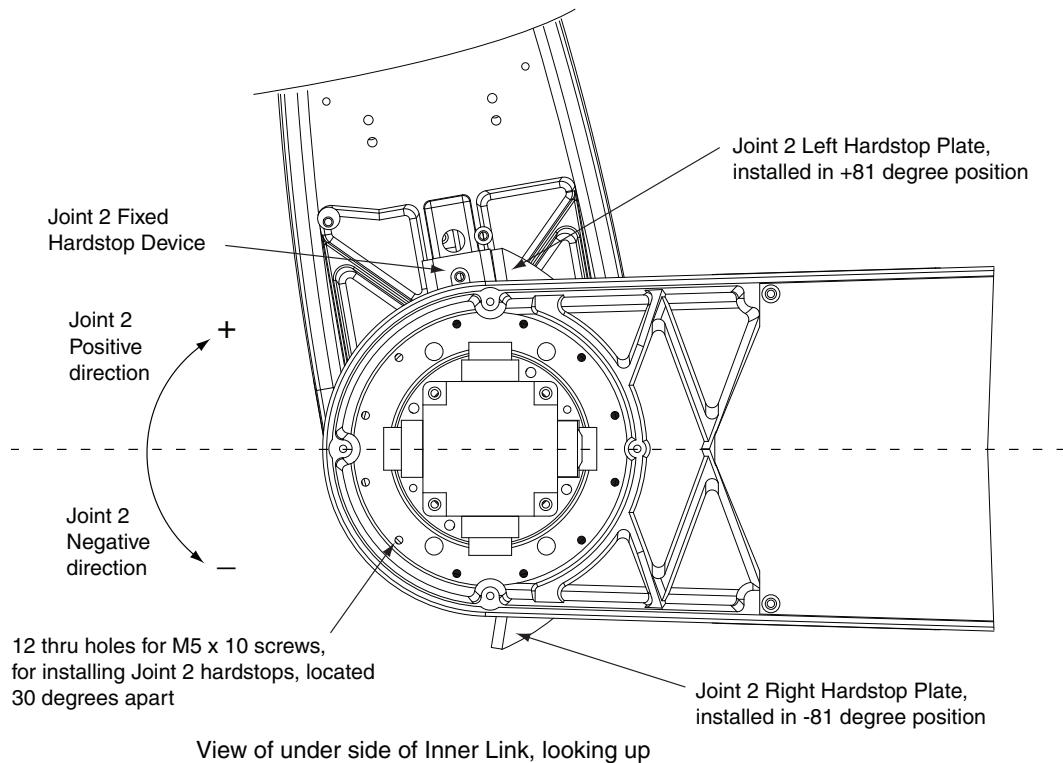

Figure 6-23. Screw Locations for Joint 2 Adjustable Hardstops
4. Looking up at the inner link from underneath, align the holes in the plates with the holes in the inner link—see Figure 6-23.